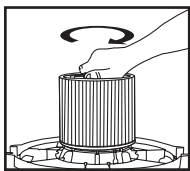

FIGURE 7
13. Hold the tank cover with one hand, turn the handle on the filter retainer clockwise to tighten, locking the filter into place. **FIGURE 7.**